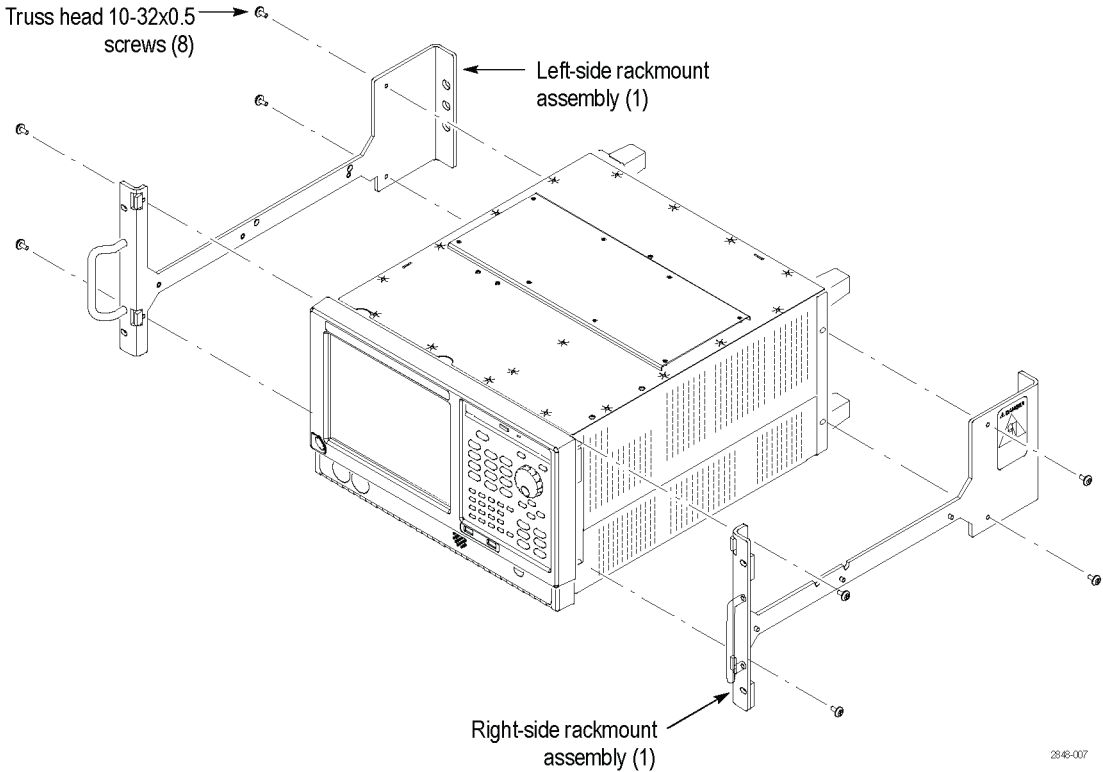

Figure 7: Installation of rackmount assemblies
3. Install the right-side rackmount panel assembly to the right side of the instrument. Secure it by using the four 10-32 Truss head Phillips screws, applying 28 inch-lbs of torque. (See Figure 7.)